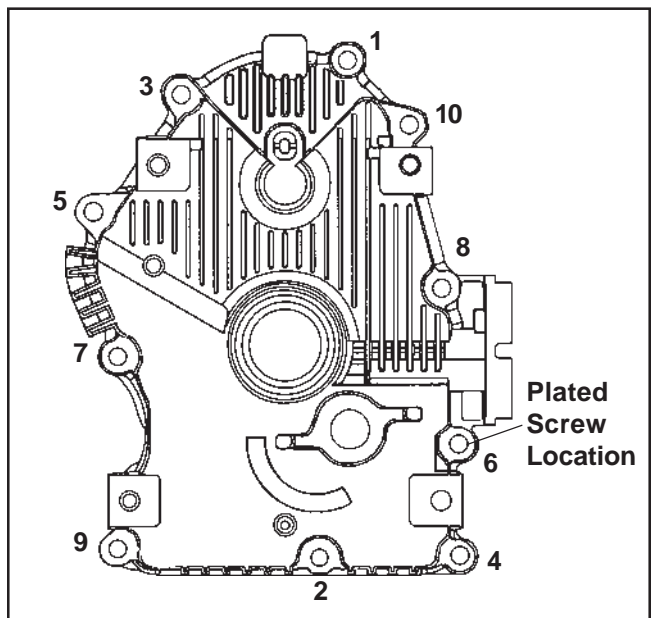

Figure 11-19. Closure Plate Torque Sequence.
7. Install the ten hex. flange screws securing the closure plate to the crankcase. If a thick flat washer was used on one of the screws, install it in the #10 location. Install the silver plated (ground) screw in its original location (normally the #4 or #6 location). Torque the fasteners, in the torque sequence shown in Figure 11-19 to **24.4 N·m (216 in. lb.)**.